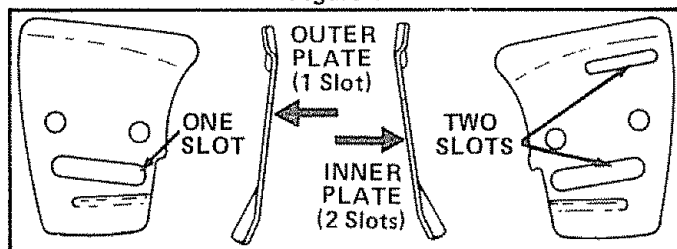

Figure 4
**NOTE:** Be sure the Inner Guide Plate curves or flanges toward the saw frame away from the Guide Bar. Figure 4.
**NOTE:** Be sure both the inner and outer guide bar plates curve or flange outward from the Guide Bar. Figure 4.